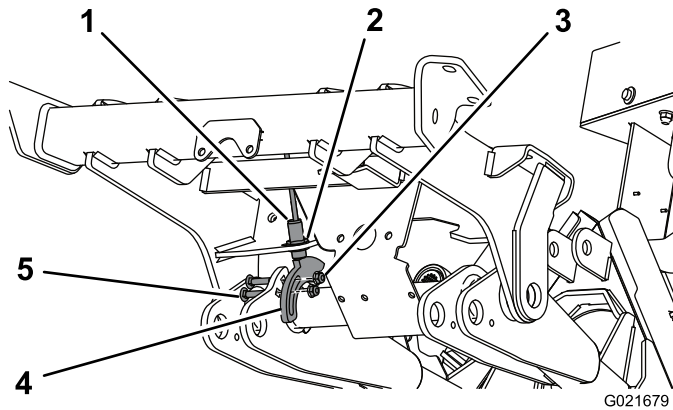

Figure 14
- Using the hole in the bottom of the front frame, loosely mount the proximity switch with the washers and jam nuts (Figure 14).
- Loosely mount the sensor plate to the left lift arm with (2) 5/16 x 1-1/4 inch carriage screws and flange nuts. Do not tighten the jam nuts at this time. Position the sensor plate as shown in Figure 14. Make sure the switch does not contact the sensor plate.